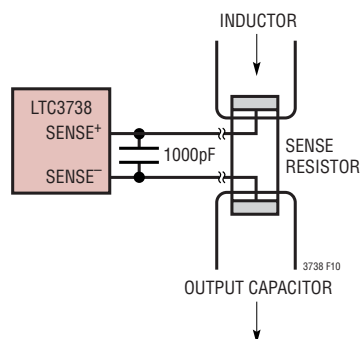

Figure 10. Kelvin Sensing R_{SENSE}
3) Are the SENSE[–] and SENSE⁺ printed circuit traces for each channel routed together with minimum PC trace spacing? The filter capacitors between SENSE⁺ and SENSE[–] for each channel should be as close as possible to the pins of the IC. Connect the SENSE[–] and SENSE⁺ pins to the pads of the sense resistor as illustrated in Figure 10.